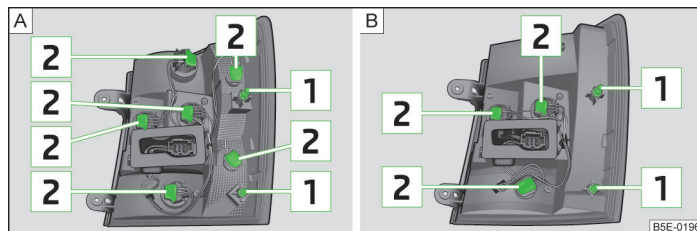

Fig. 225 Outer part of the light: Basic light/light with LED diodes
- Carefully press the tail lamp assembly into the bodywork so that the bolts [1] » Fig. 225 on page 239 on the light latch with the mounts in the body » .
- Turn the bulb holder [2] » Fig. 225 anti-clockwise remove it from the lamp housing.